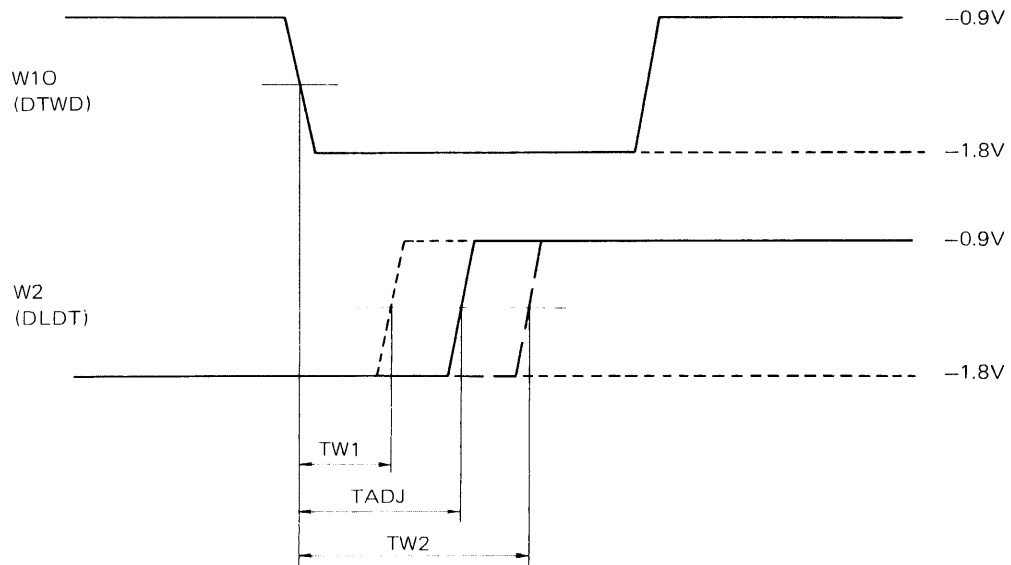

Figure 6-6-7 Timing Margin Measurement
- (1) Record this worst-case data pattern "EB6DB6DB₁₆" on all records of the specific track, e.g. CE track or Cylinder 0 track.
- (2) Connect terminal W10 on the CZFM PCB to one vertical input of the oscilloscope (DC coupled).
- (3) Connect terminal W2 to the other vertical input channel of the oscilloscope (DC coupled).
- (4) Trigger with the positive-going edge of the W10 signal (DTWD).
- (5) Adjust the W2 (DLDT) signal by the potentiometer RV2 to the minimum width of the critical state, so that no errors occur for 20 seconds. See TW1 in Figure 6-6-7.
- (6) Similarly, adjust the maximum width as mentioned above. See TW2 in Figure 6-6-7.
- (7) Perform the steps (5) and (6) using each Head on the specific cylinder.
- (8) The timing margin will be specified as follows:
Refer to Figure 6-6-7.